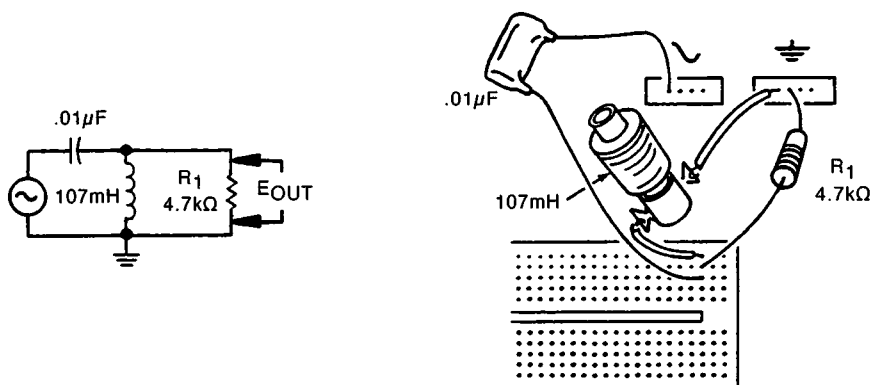

Figure 5-48
22. Disconnect the previous circuit and construct the circuit shown in Figure 5-48.
shown in Figure 5-48.
Finally you constructed the circuit shown in Figure 5-48. A typical response curve is shown in Figure 5-54. The curve indicates that this is a high-pass filter.